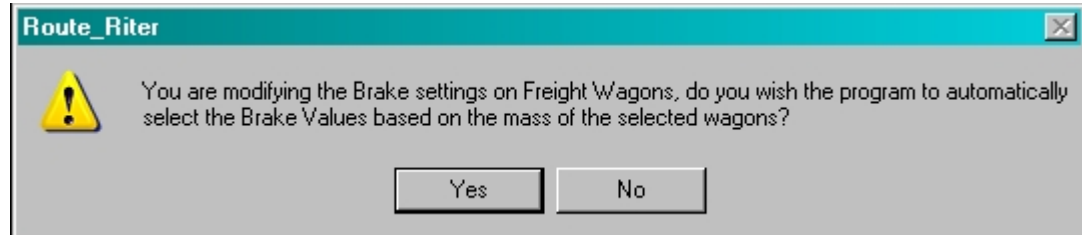

Figure 202
9. You will now see the window as shown in Figure 202. Select the "Yes" button and the editor will automatically insert the correct *maxbrakeforce* file for the weight of the wagons you are upgrading. The only time to chose the "No" button is when you do Intermodal rolling stock when you can manually choose the appropriate **IM txt** file in the **Pro-Brake Files** folder.